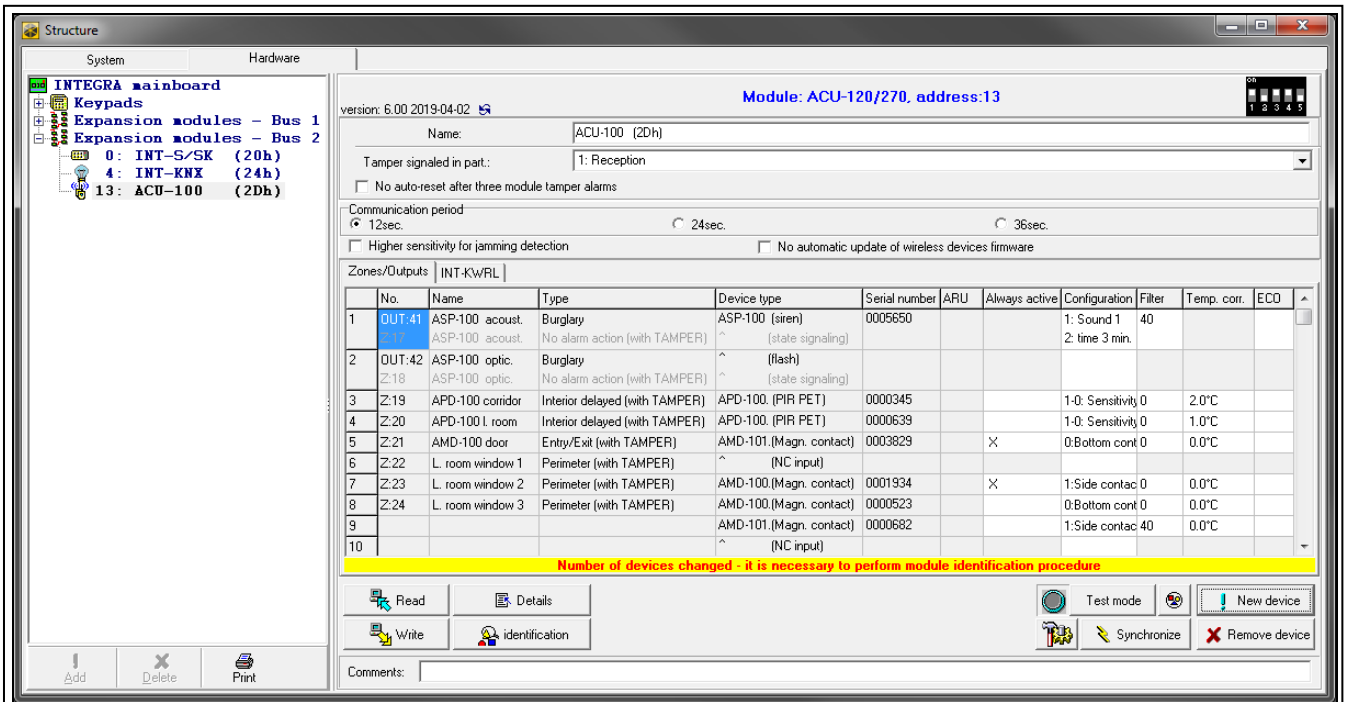

Fig. 20. DLOADX program: information displayed after registration of a new device to the controller connected to the INTEGRA / INTEGRA Plus control panel.
10. Click on the “identification” button (see Fig. 20). The new wireless zones / outputs will not be available in the alarm system until the procedure of expander identification is finished.